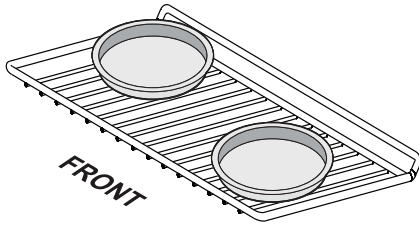

Figure 16: Baking with a single rack
- When baking using one oven racks, position bakeware as shown in Figure 16. Allow at least 2 inches (5 cm) of space between bakeware for proper air circulation.